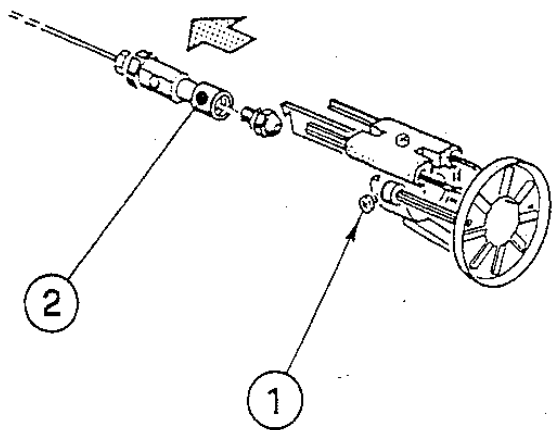

Figure 7C: Nozzle Replacement
- b. Nozzle Replacement, refer to Figure 7C.